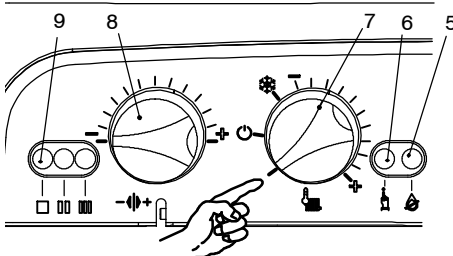

Fig. 7.8
- 5 Set the function knob 7 as illustrated in Fig. 7.8.